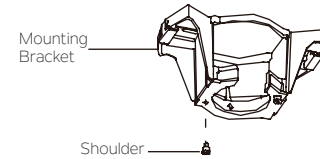

Fig. 6
Step 2. Remove one of the two shoulder screws in the mounting bracket and save it for later use. Loosen the second shoulder screw without fully removing it. (Fig. 6)